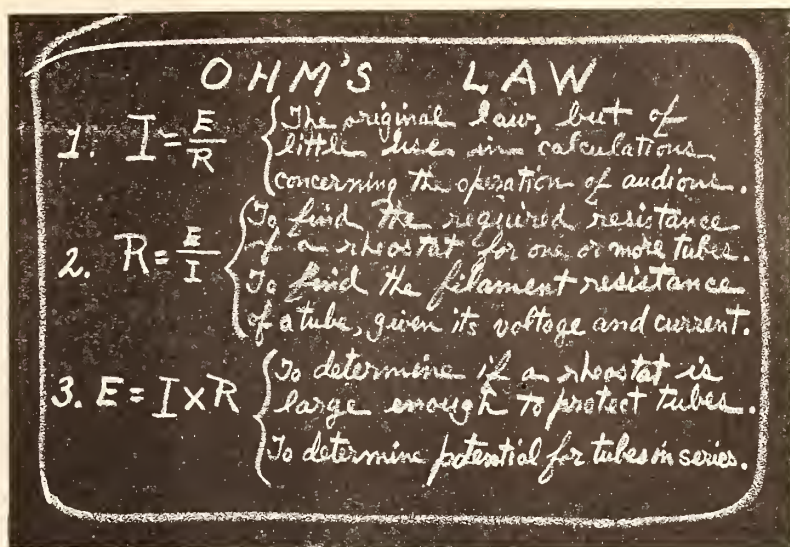

FIG. 1
**T**HE accompanying chart, Fig. 1, shows the three laws, and indicates the various computations in which they are commonly involved. The equation most readily applicable to the operation of the dry-cell tube is the second, and which declares that the resistance is equal to the voltage divided by the current.
If you know any two of the three predominant tube characteristics—voltage ( $E$ ), amperage ( $I$ ), and resistance in ohms ( $R$ )—you can find the third by the formulas given in Fig. 1